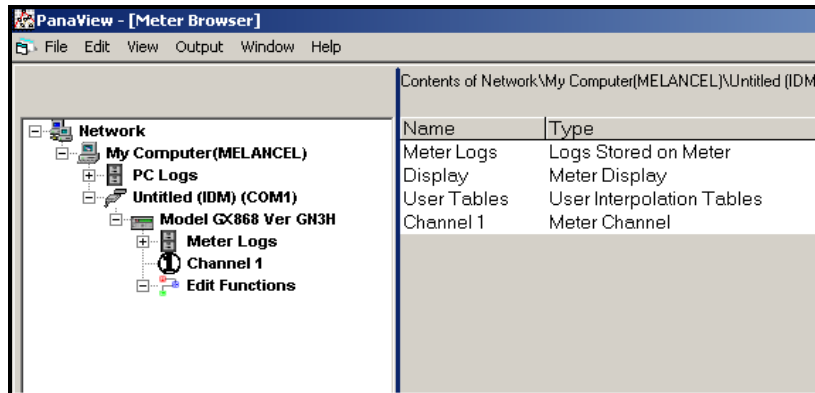

Figure 32: New Meter Browser with Meter Branch
3. Then expand the meter tree as shown in Figure 32.